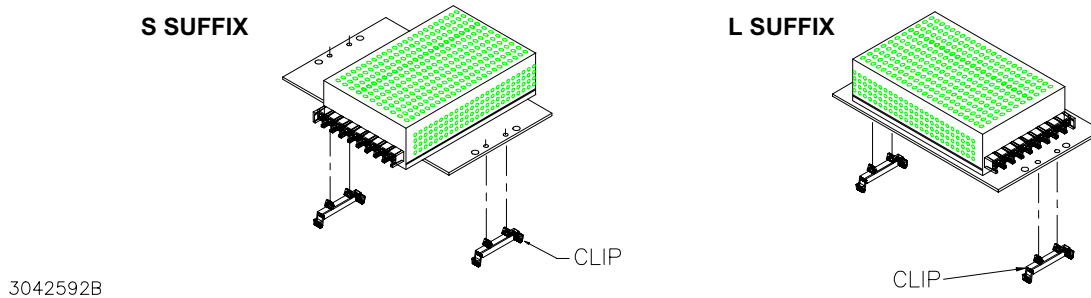

FIGURE 4. INSTALLING CLIPS ON MOUNTING PLATE
3. **INSTALL CLIPS.** Snap the two clips into the mounting plate holes (see Figure 4).